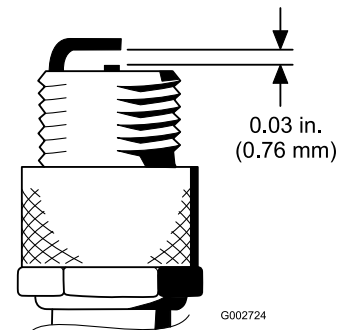

Figure 30
4. Set the air gap between the center electrode and side electrodes to 0.76 mm (0.030 inch); refer to Figure 30. Install the correctly gapped spark plug with the gasket seal, and tighten the plug to 23 N·m (200 in-lb). If a torque wrench is not used, tighten the plug firmly.